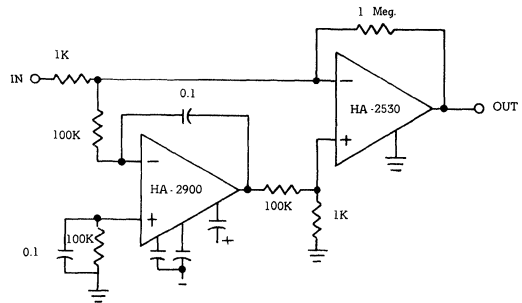

Figure 14
Figure 14 illustrates an excellent combination of characteristics for use wherever inverting amplifier applications are required. Features of the composite amplifier include: slew rate: $300V/\mu s$, gain bandwidth product: 10-500 MHz, D.C. gain: 10^{13} , offset voltage drift: $0.3\mu V/^\circ C$, bias current drift: $50pA/^\circ C$, input noise (0-1 KHz): $5\mu V$ peak to peak.
- Obtain the value of $4KTR_g$ from Figure 14, and enter it on line (c) of the table. This is constant for all frequencies. The $4KTR_g$ value must be adjusted for temperatures other than normal room temperature.